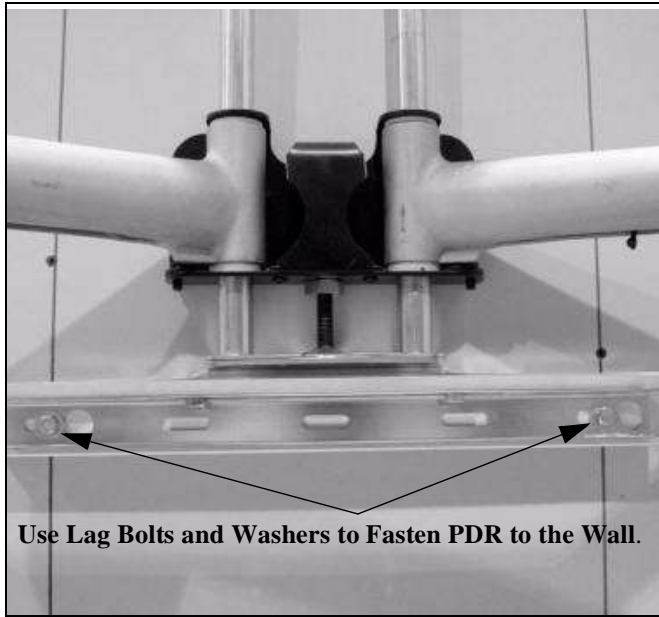

Figure 3
1. Mark the two mounting holes in the bottom mounting bracket (See figure 3). Make sure to align the holes parallel to the holes drilled in the top bracket.
3. Install two 5/16" x 2-1/2" lag bolts and two 5/16" flat washers, in the pilot holes drilled in step 2. (See Figure 3)